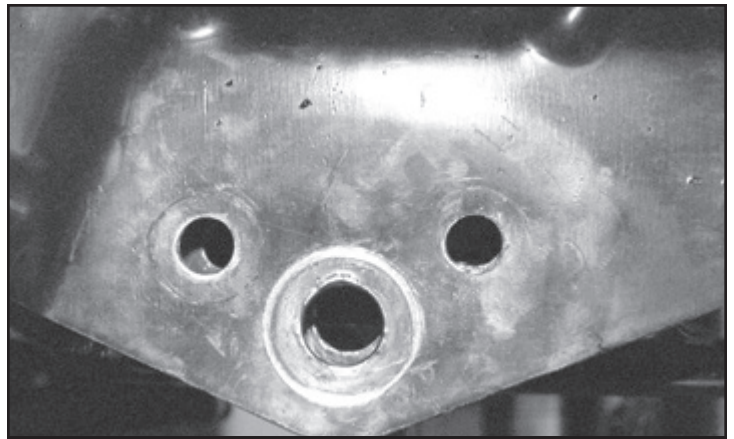

**FIGURE 35 - STEP 43**
43. Line up the drill template with the factory Radius arm bracket and mark the two holes around the radius arm pivot bolt. **SEE FIGURE 35**